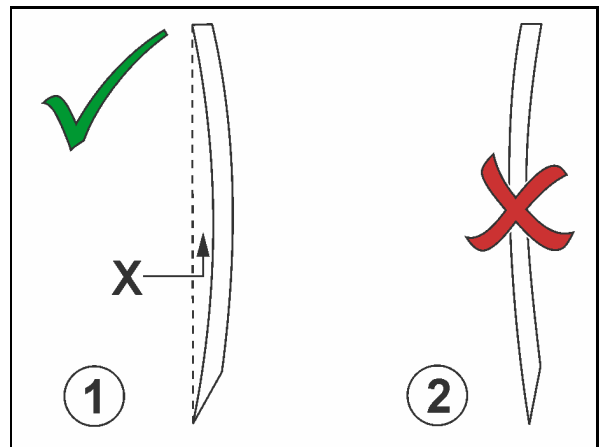

Fig. 124
2. Bring the cutting knife back to a slightly concave shape by means of hammer strokes (Fig. 124/1)